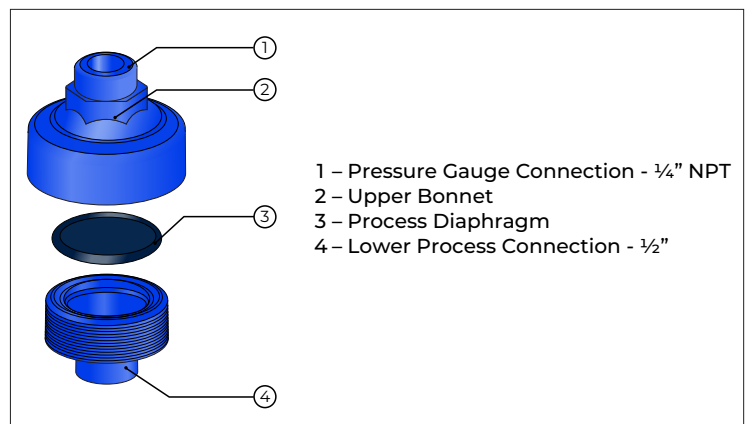

Fig. 1. Layout and Function
- The Process Connection is connected to the pressurized pipe - See Fig. 1 (Item #4)
- The Pressure Gauge/Instrument is mounted into the Upper Bonnet - See Fig. 1 (Item #1)